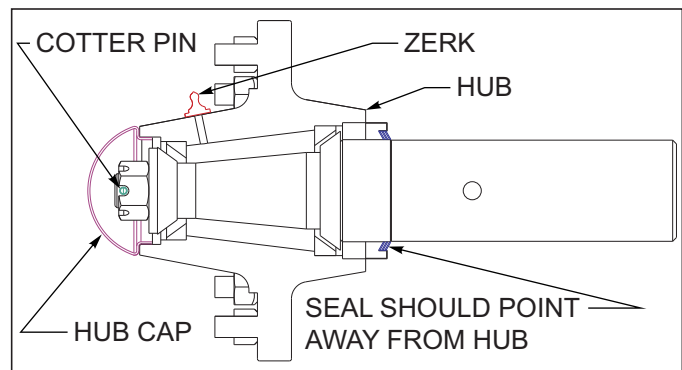

Figure 4-20: Triple Lip-Seal
The triple-lip seals should point away from the hub to keep contaminants out and allow grease to pass See Figure 4-20.
13. Install a new cotter pin and replace the hub cap. **See Figure 4-20.**